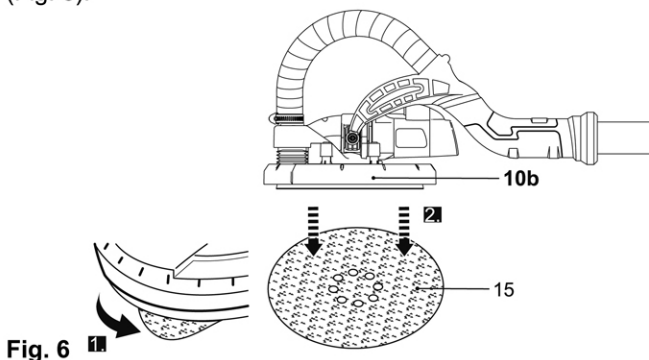

Fig. 6 1
1. Grip one corner of the sanding paper (**15**) and pull it off the base plate (**10b**) (Fig. 6).